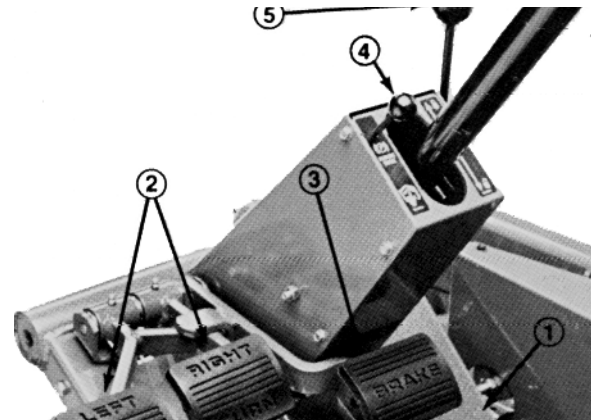

Figure 5
**Traction Pedal** (Fig. 5)—The traction pedal moves the machine forward and backward. Using the heel and toe of the right foot, depress the top of the pedal to move forward and the bottom of the pedal to move backward. Ground speed depends on how far you press the pedal. For maximum ground speed with no load, the traction pedal must be fully depressed while the throttle is in the FAST position. Maximum speed forward is approximately 9.5 mph (15 km/hr). To get maximum power under heavy load or when ascending a hill, have the throttle in the FAST position while depressing the traction pedal slightly to keep the engine rpm high. When the engine rpm begins to decrease, release the traction pedal slightly to allow the engine rpm to increase.
**Turn Pedals** (Fig. 5)—The left and right turn pedals are connected to the left and right front wheel brakes. Since both brakes work independently of each other, the brakes can be used to turn sharply or to increase traction if one wheel slips while operating on a hillside. However, wet grass or soft turf could be damaged when the brakes are used to turn.
**Tilt Steering Control** (Fig. 5)—The lever on the right side of the steering column. Pull the lever rearward to adjust the steering wheel to the desired fore or aft operating position and push the lever forward to lock adjustment.
**Brake Pedal** (Fig. 5)—Whenever the engine is shut off, the parking brake must be engaged to prevent accidental movement of the machine.